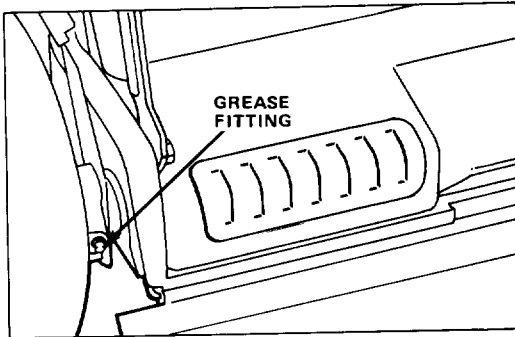

Figure 24
2. Move rear wheel height-of-cut levers to "C" setting. Wipe grease fittings with clean rag (Fig. 24). Install grease gun onto fitting and gently apply 1 or 2 pumps of #2 Multi-Purpose Lithium Base Grease.